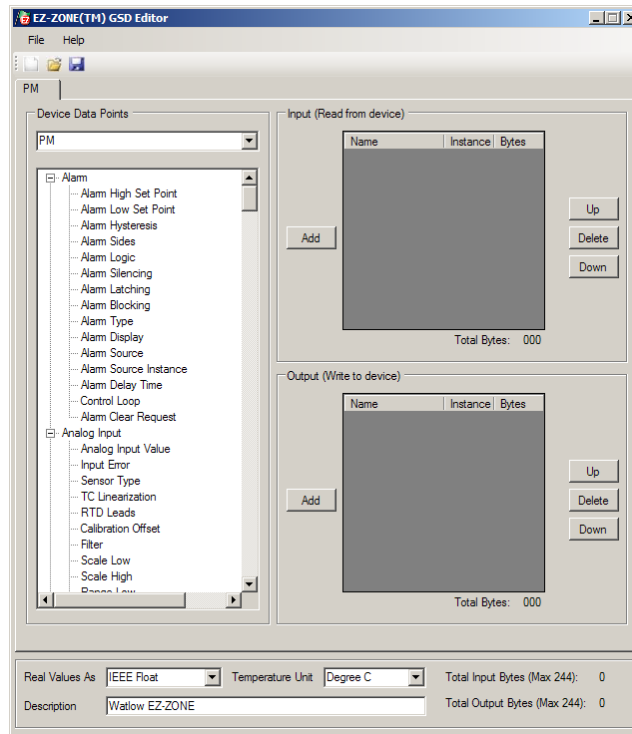
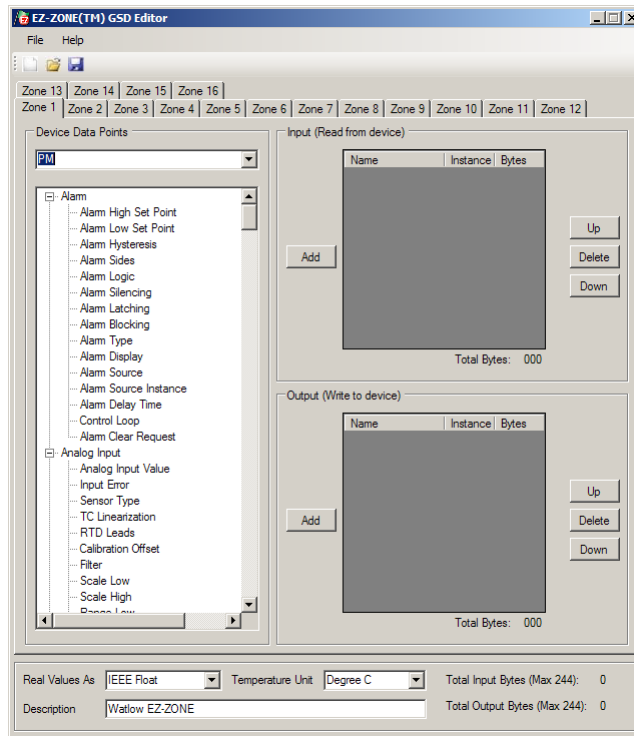

Figure 2b: Selecting data points for a PM Profibus node
Figure 2c: Selecting data points for a RUI/RMA Profibus gateway
4. Once a product is selected, it will give you a list of data points that are available for this product. When a PM is selected, it will give you data points only for a single PM (Figure 2b) as PM works as a single Profibus DP Slave Node. However, if you select RUI or RMA, it will allow you to pick data points for up to 16 zones (Figure 2c) as RUI or RMA works like a gateway.